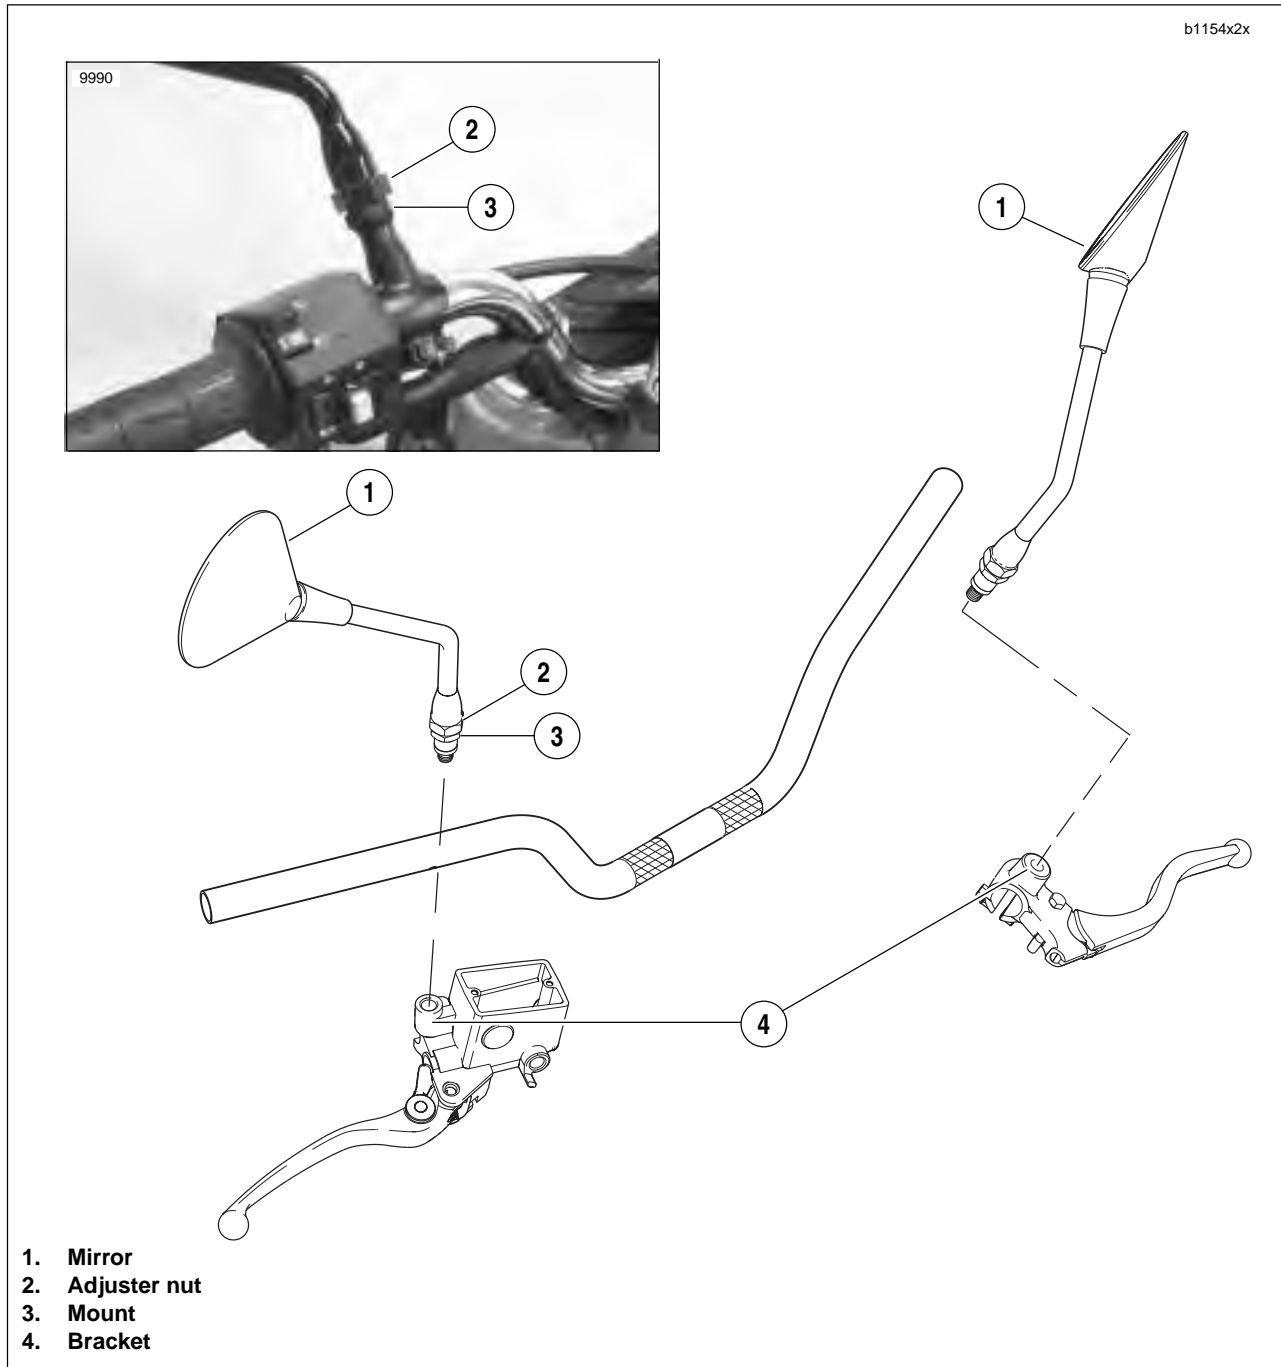

Figure 2-109. Mirrors and Mounting Hardware
1. See Figure 2-109. Loosen adjuster nut (2) and remove mirror (1) from mount (3).
2. Loosen mount (3) and remove from bracket (4).